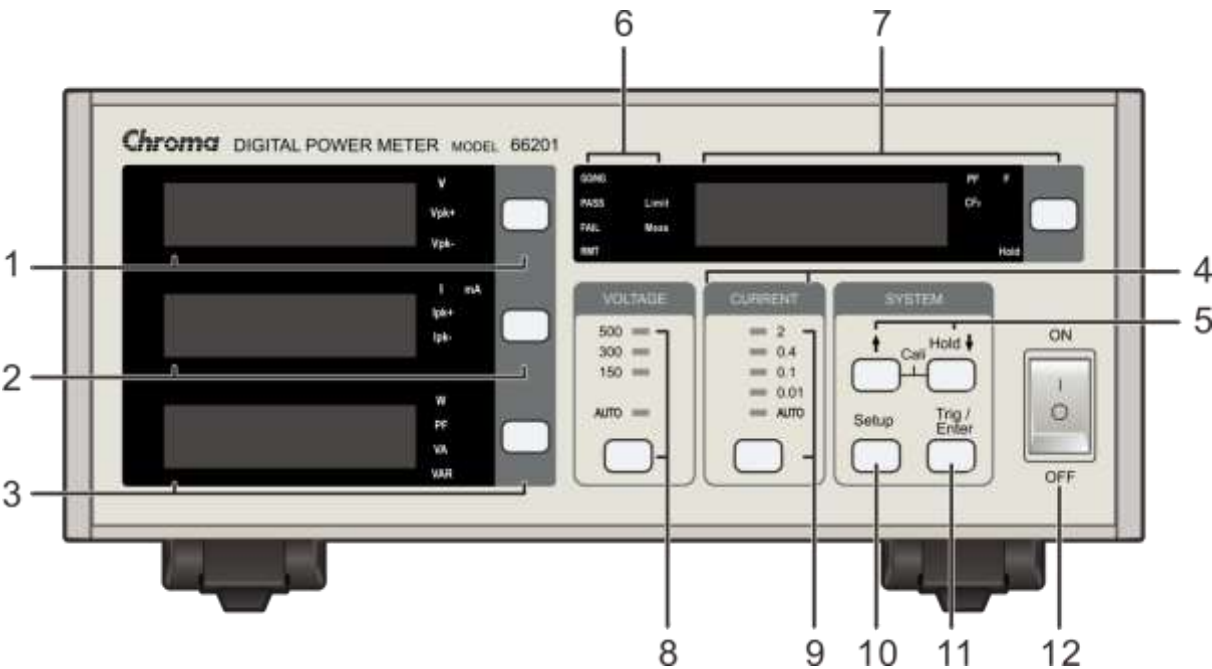
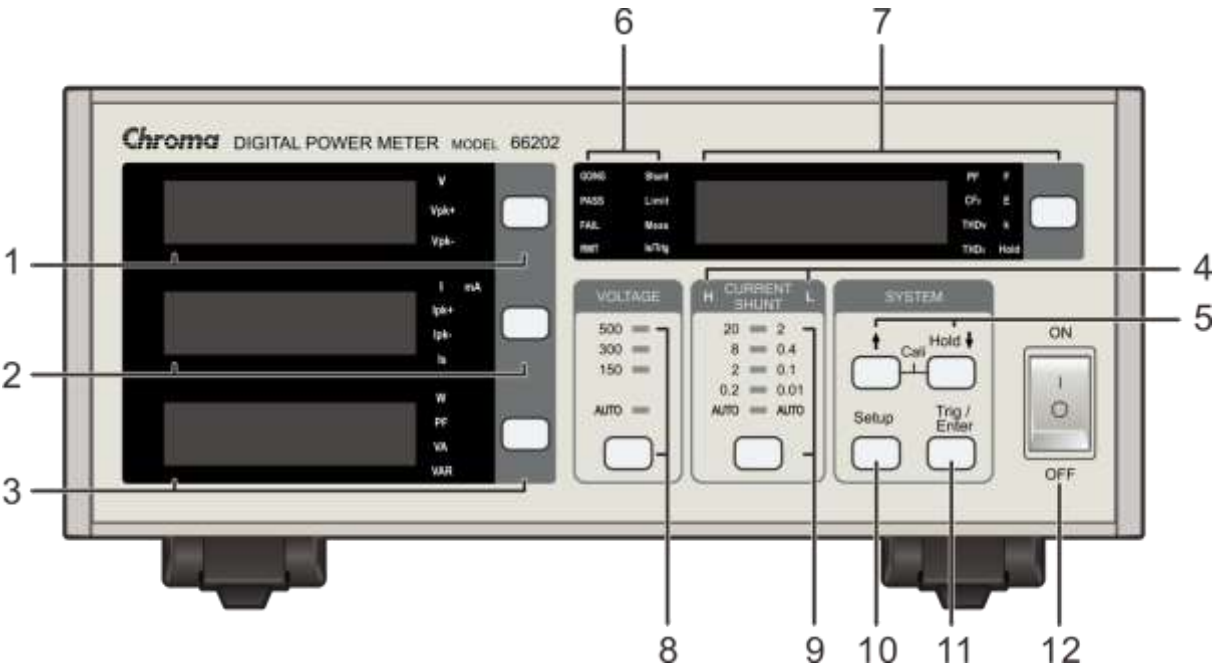

Figure 3-1 Front Panel of 66201 Digital Power Meter
Figure 3-2 Front Panel of 66202 Digital Power Meter
The front panel of 66201 and 66202 digital power meters with parts described from item (1) to (12) are shown in Figure 3-1 and Figure 3-2 below. For detail operation procedures, see Chapter 4 for more information.